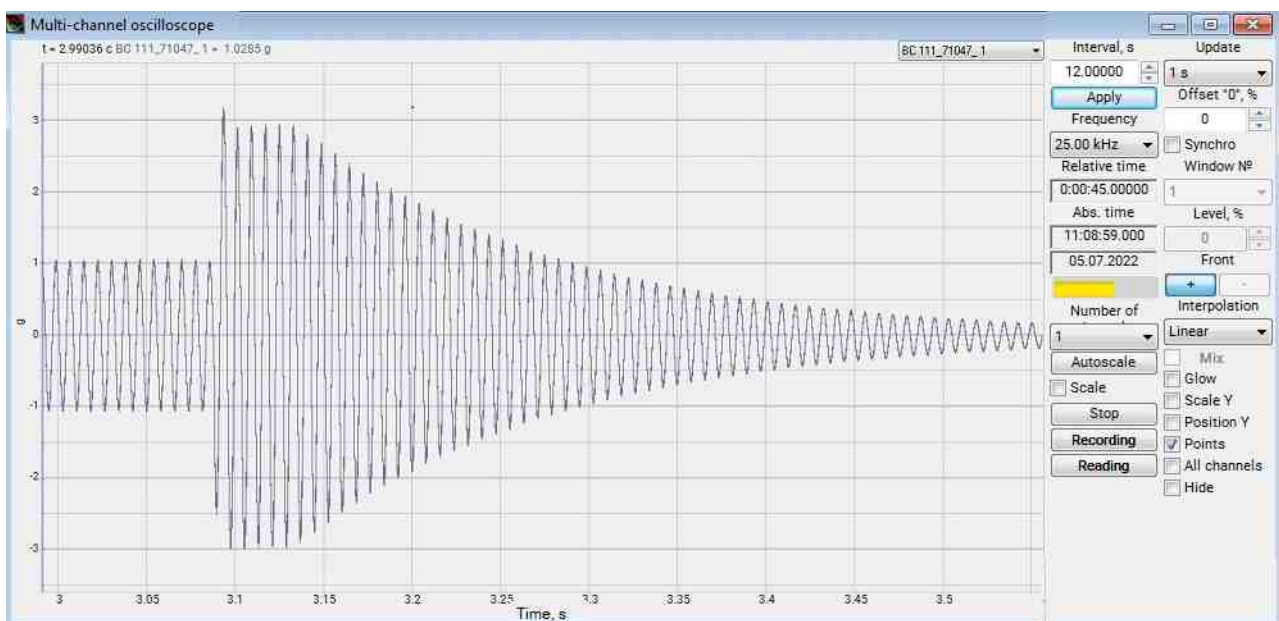

Fig. 14.3 The program "Multi-channel oscilloscope"
- "Multi-channel oscilloscope" (ZETLAB panel, "Display" section) – designed to evaluate the waveform and measure instantaneous values Fig. 14.3;